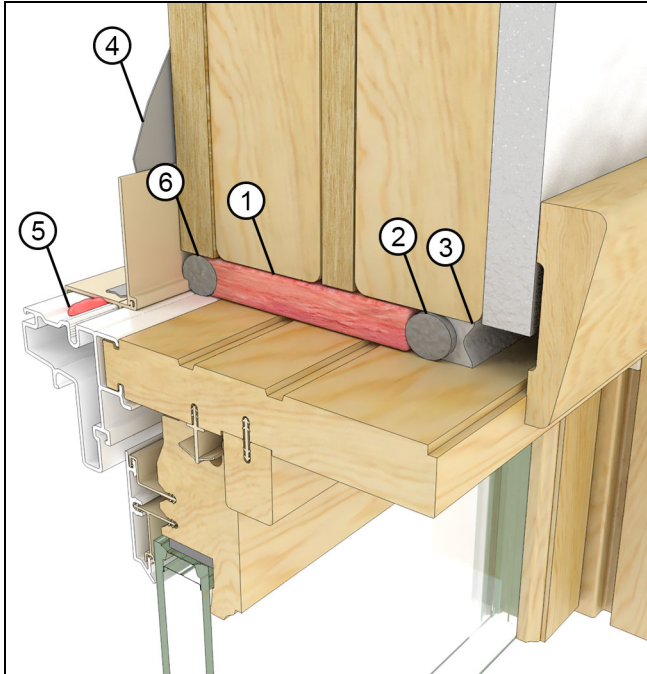

Figure 20
**1. Loose Fill Fiberglass Insulation.** Insulate the RO cavity with loose fill fiberglass insulation. Install a backer rod and sealant at the interior plane of the RO to create a continuous air seal. See Figure 20.